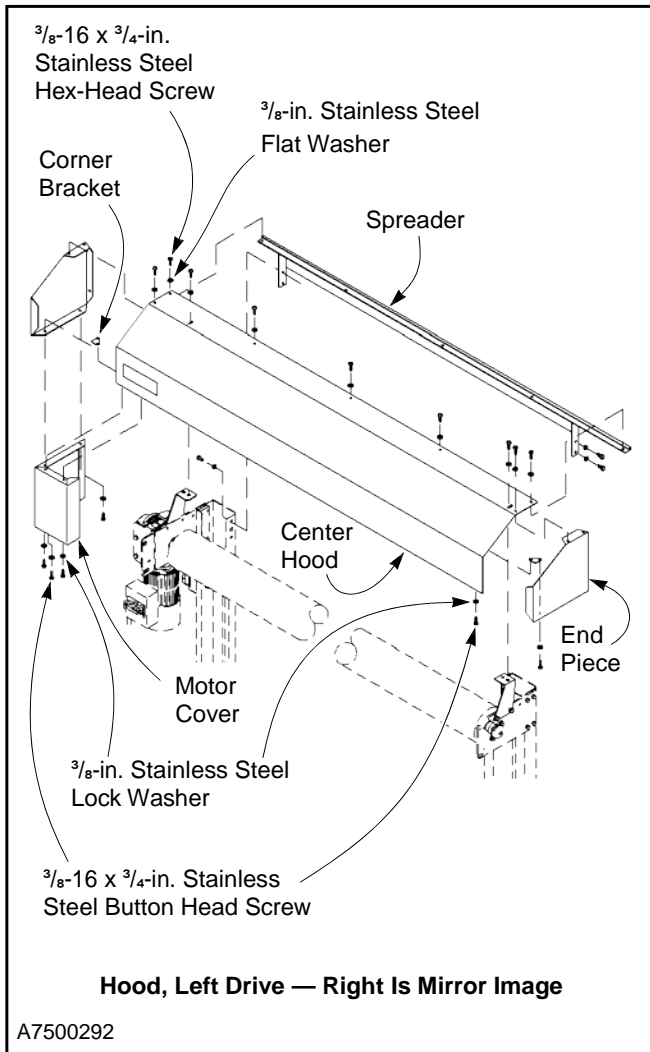

Figure 57
2. Mount the spreader between the side columns. The spreader is attached to the upper most pair of holes along the inside edge of each side column. Use two  $\frac{3}{8}$ -in. stainless steel lock washers and  $\frac{3}{8}$ -16 x  $\frac{3}{4}$ -in. stainless steel hex head screws at each end of the spreader. (See Figure 57.)
Assemble the remaining components of the hood as shown in Figure 57 using the indicated hardware. To make it easier, first assemble the hood on the floor.